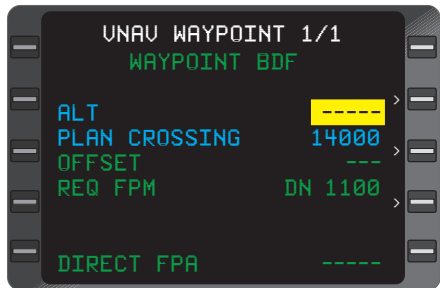
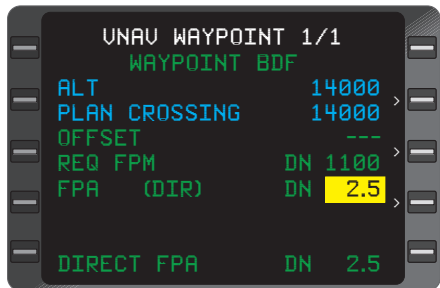

Figure 3-137
Figure 3-138
- VNAV** Key - DEPRESS. **VNAV WAYPOINT** Page appears. If necessary, position cursor over **ALT** field (Figure 3-137). If an altitude constraint has already been programmed, the cursor will appear over the **FPA** value field (Figure 3-138). Go to Step 8.
NOTE: Direct Flight Path Angle prefills if it is within the valid range and an ALT is programmed. (Figure 3-138)